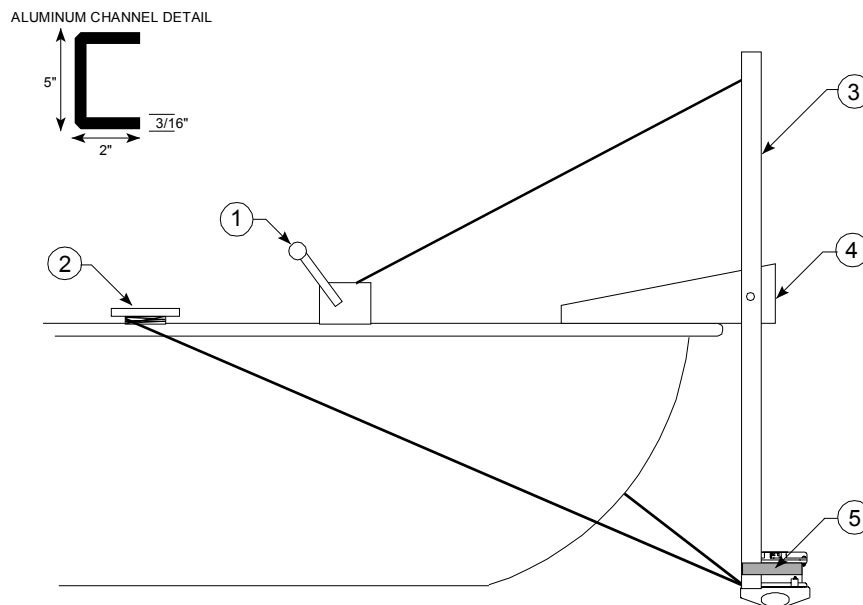

Figure 2. Mounting an ADCP/DVL to a boat
- Mount to the vessel (Figure 2, page 3 shows an ADCP/DVL mounted to a boat).